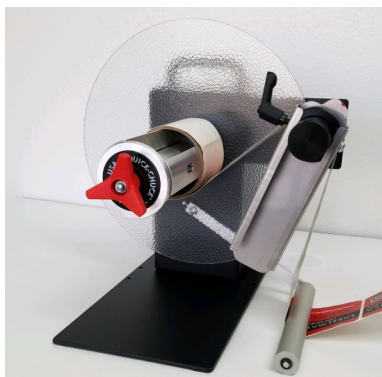

FIG. 17
- Depending on your printer type, it might be more suitable to guide the paper first under the Tension Arm and then over the black shaft as shown in FIG.12 and FIG.17
- **IMPORTANT: TENSION ARM MUST BE ON THE TABLE AT THIS TIME. Now change to the opposite direction arrow** from the one that is automatically activated and press the START/STOP button. The UNI-CAT will now go automatically to its AUTO-START position. LED INDICATOR START/STOP should be active together with one (1) of the direction LED INDICATORS.